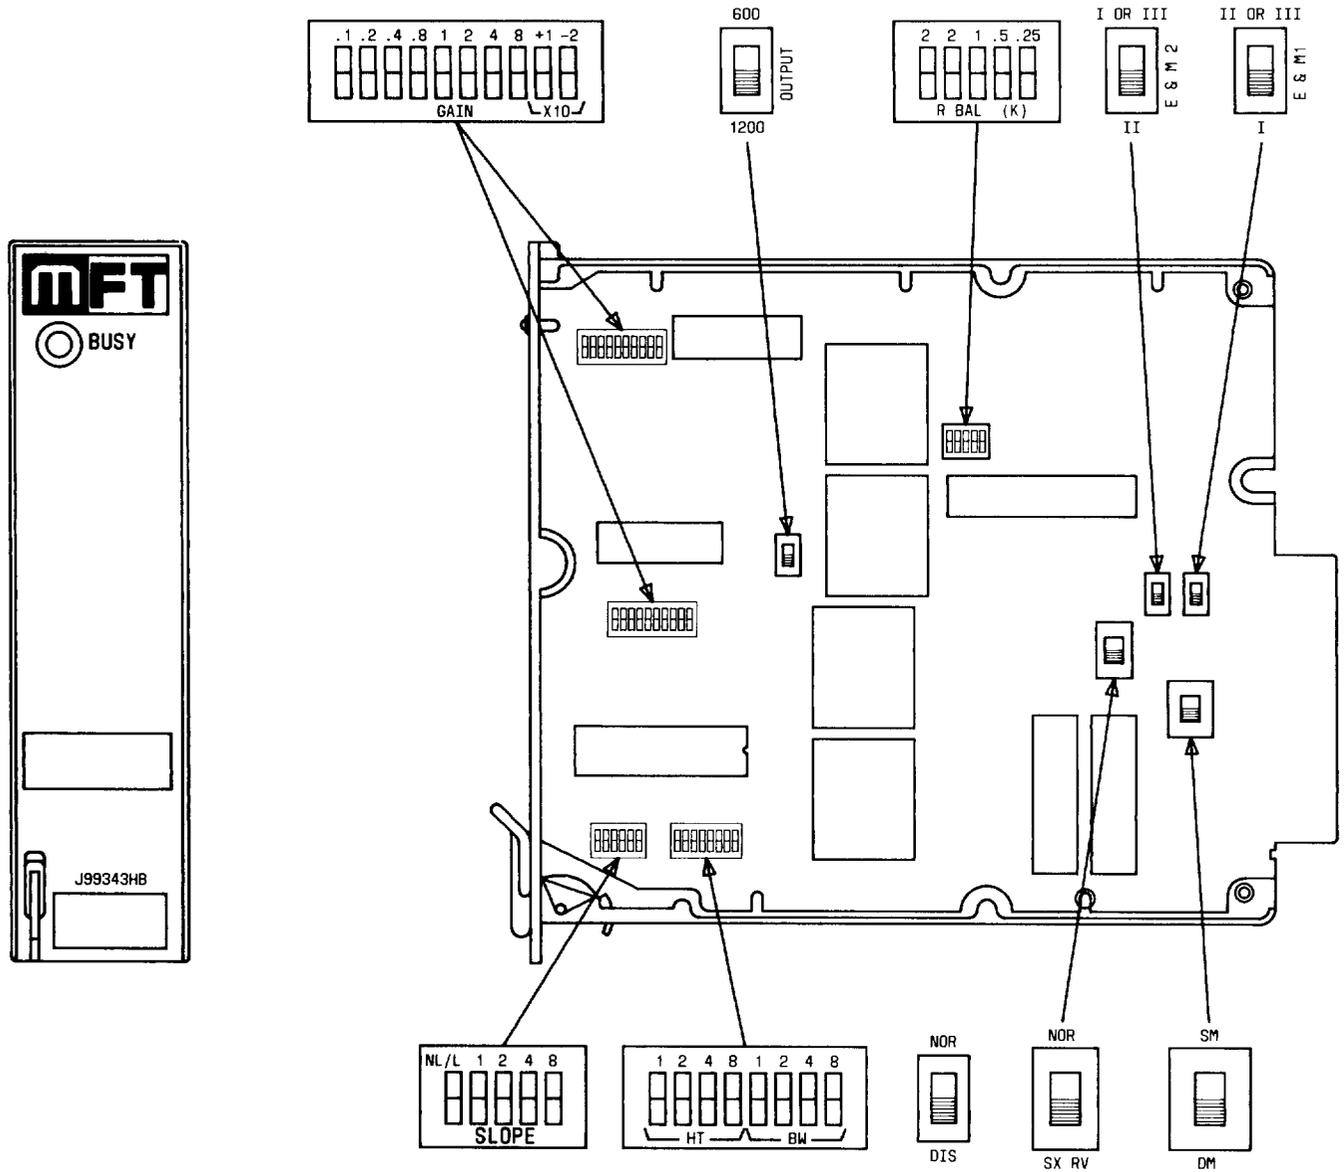
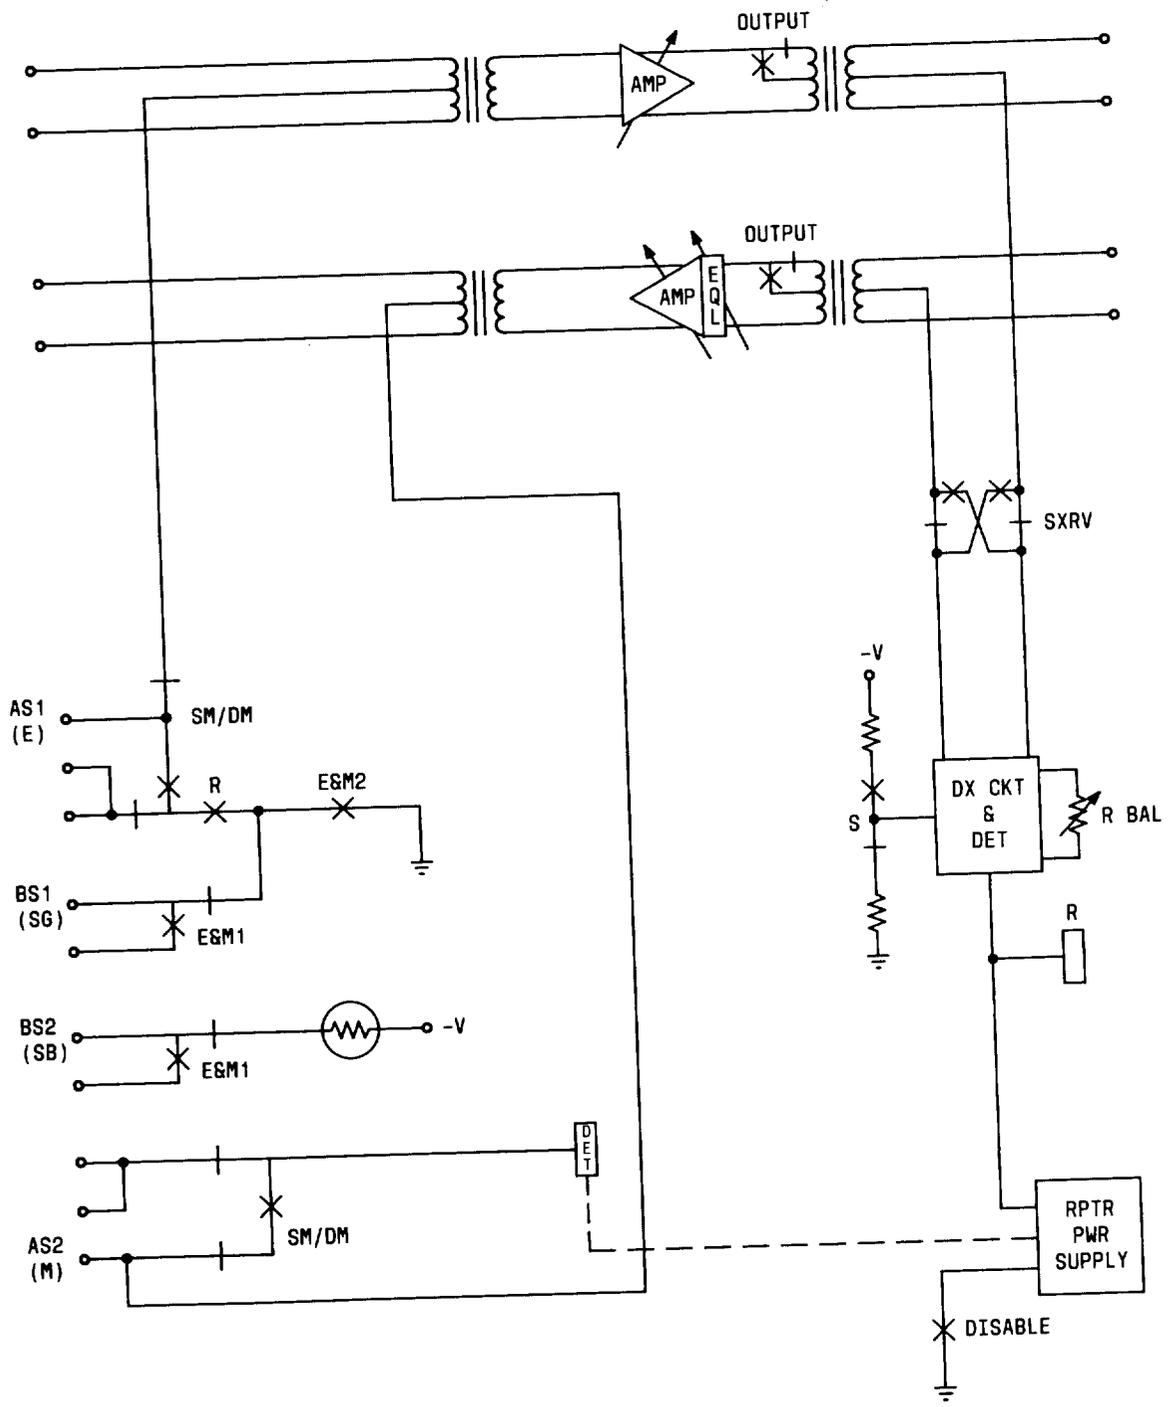

Fig. 6—Component Layout—J99343HB
Fig. 7 — Block Diagram — J99343HB
**3.01** The J99343HB is shown in Fig. 6. It provides gain, equalization, and E&M to DX1 signaling on 4-wire circuits. Figure 7 shows a block diagram of the unit.
**3.07** The rocker-type switches for a particular function, which are described in the following paragraphs, are operated when depressed toward the respective designation. The sum of the values of the switches operated is the setting for that function. The unit controls are illustrated in Fig. 6.